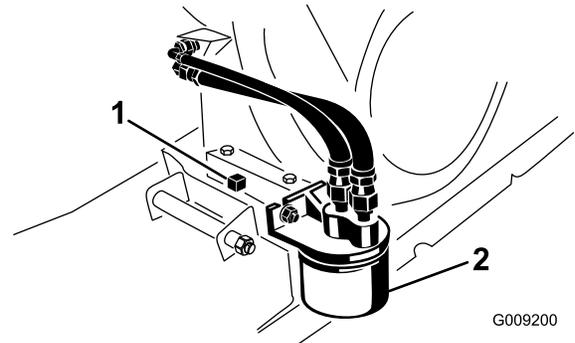

Figure 39
5. Align a drain pan with a 1.8 L (1.9 qt) capacity under the drain plug (Figure 39).
6. Remove the drain plug and seal (Figure 39).
2. Remove the existing oil filter (Figure 39).
4. Thread the new filter onto the filter adapter until the gasket contacts the mounting plate, then tighten the filter an additional 1/2 to 3/4 turn further (Figure 39).